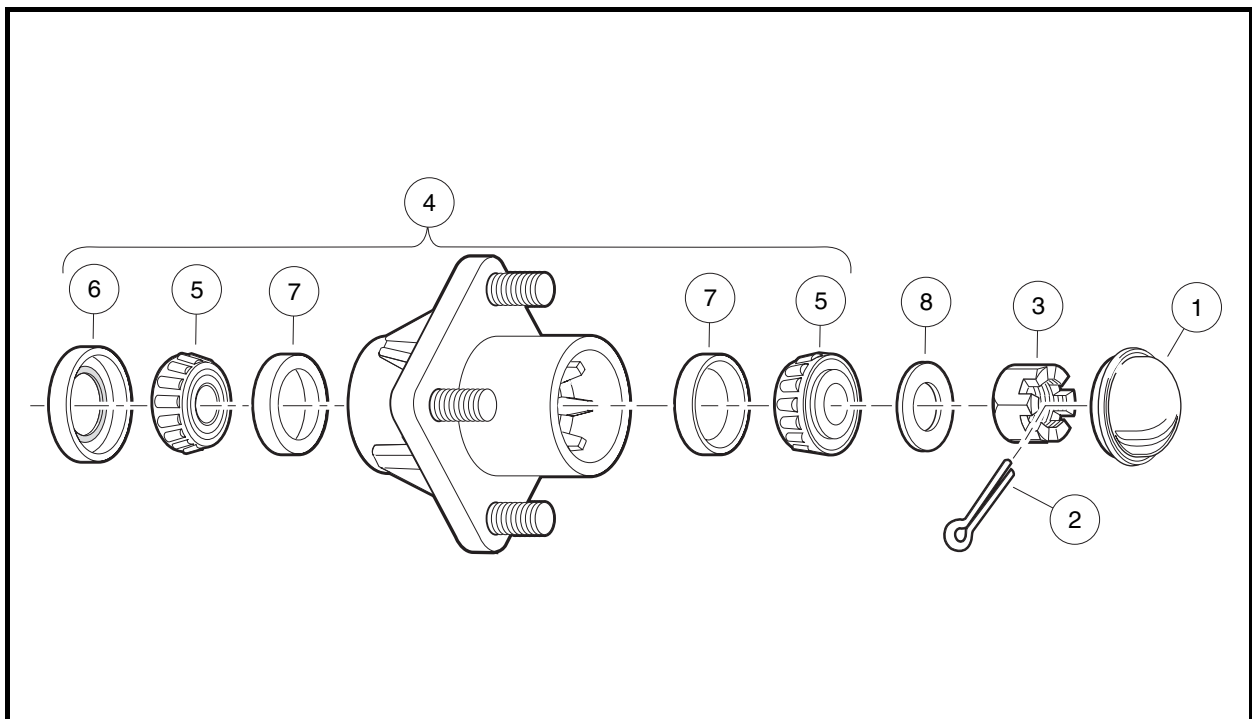

Figure 7-25 Front Wheel Bearings and Hub
2. Using your hands, attempt to rock the wheel and hub assembly back and forth on the spindle. If there is any observable movement of the wheel and hub on the spindle, remove dust cap (1) and cotter pin (2), and then tighten the spindle nut (3) until the bearing (5) fully seats in the bearing race (7) (**Figure 7-25, Page 7-23**).
4. Install a new cotter pin (2). If movement continues, replace the wheel bearings (5) as required.
- 2.1. Remove dust cover (1), cotter pin (2), spindle nut (3), and flat washer (8) (**Figure 7-25, Page 7-23**).
1. Pack the wheel bearings (5) and hub cavities, and lubricate cups (7) with wheel bearing grease or chassis lube. Make sure the grease is forced between the rollers (**Figure 7-25, Page 7-23**).
2. If bearing cups (7) were removed, press new ones in squarely against stops in the hub. **See following NOTE.**